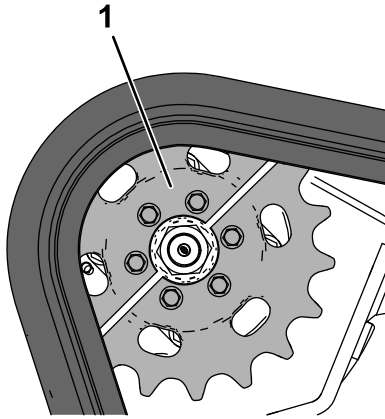

Figure 60
2. Park the machine on a level surface, ensuring that only 1 sprocket half is engaged with the track (Figure 60).